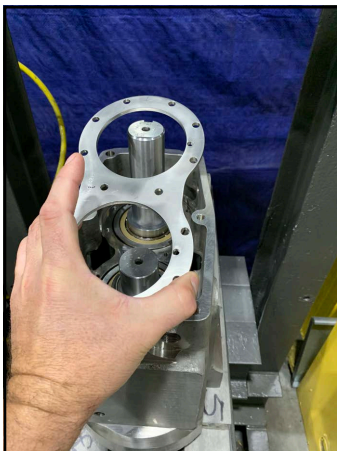

Figure 308 -Installing the rear bearing retainer plate.
6. Install the rear bearing retainer plate as shown in Figure 308.